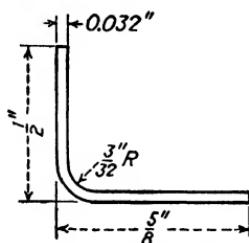

Fig. 318.—Angle of bend 90° .
- 82.** Calculate the bend allowance for the fitting shown in Fig. 318.
- 83.** Find the over-all or developed length of the fitting in Fig. 318.